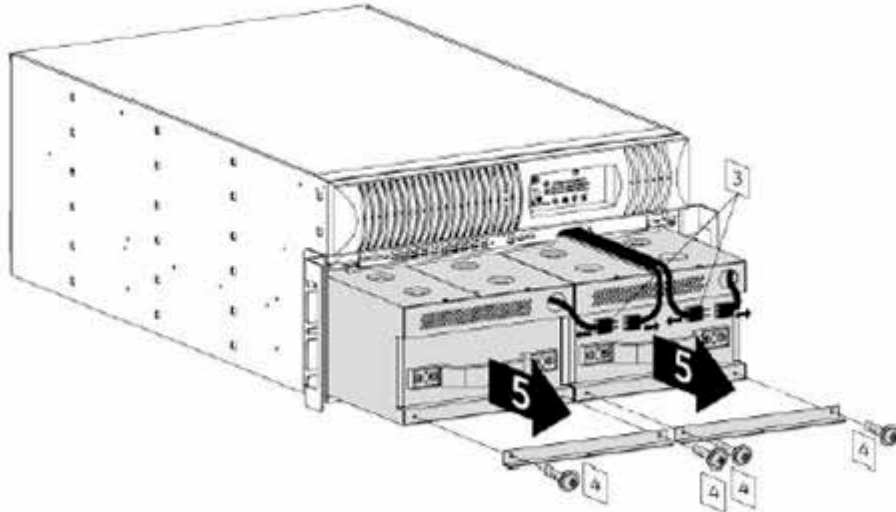

FIG 72 – BATTERY TRAY REMOVAL
4. Grab hold of the battery trays and slide it out. (FIG 72). Be careful during this operation and consider the weight of the battery.